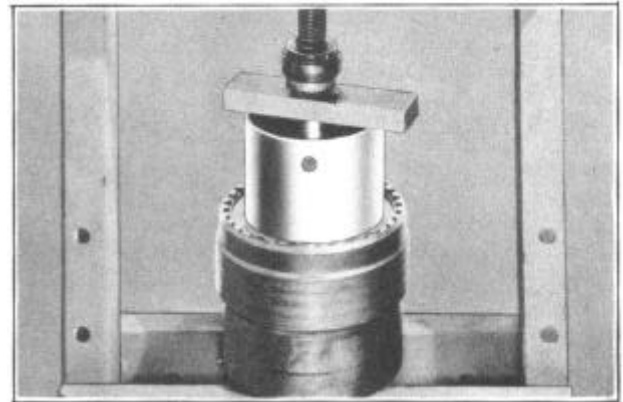

FIGURE 114
28. Remove the oil seal ring (3).
29. Place the low brake drum and multiple disc assembly in an arbor press and place the Multiple Disc C l u t c h Fixture J-5478 on the retractor spring retainer as shown in Figure 114. Place a steel plate on the fixture and apply just sufficient pressure to relieve the pressure of the retractor spring retainer against the retainer snap ring.
10. Place unit in an arbor press and position the Clutch Fixture J-5478 on the retractor spring retainer as shown in Figure 114. Place a steel plate on the Clutch Fixture